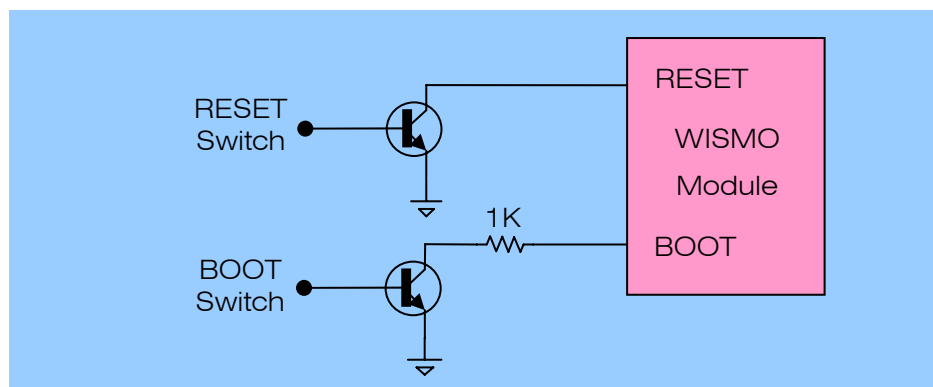

Figure 24: Alternate way of implement Boot/Reset pins
- The BOOT pin can be routed to serial connector and a special downloading cable can be manually activate the Boot and Reset pins, such as shown in Figure 24.
This signal is used to force a reset procedure by providing low level during at least 100us. It has to be considered as an emergency reset only, and driven by an open collector or an open drain, as shown in Figure 24.